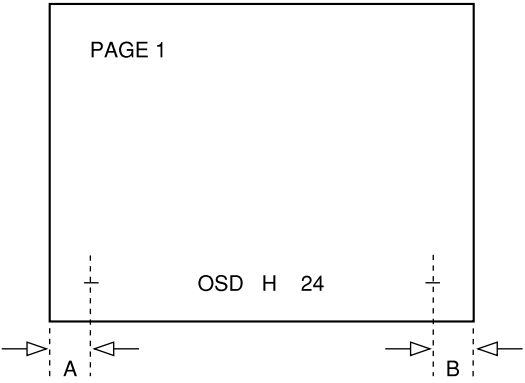

Fig. 1-4
- Adjust + mark positions on both left and right in the equal distance towards the screen edge. A = B (Fig. 1-4)